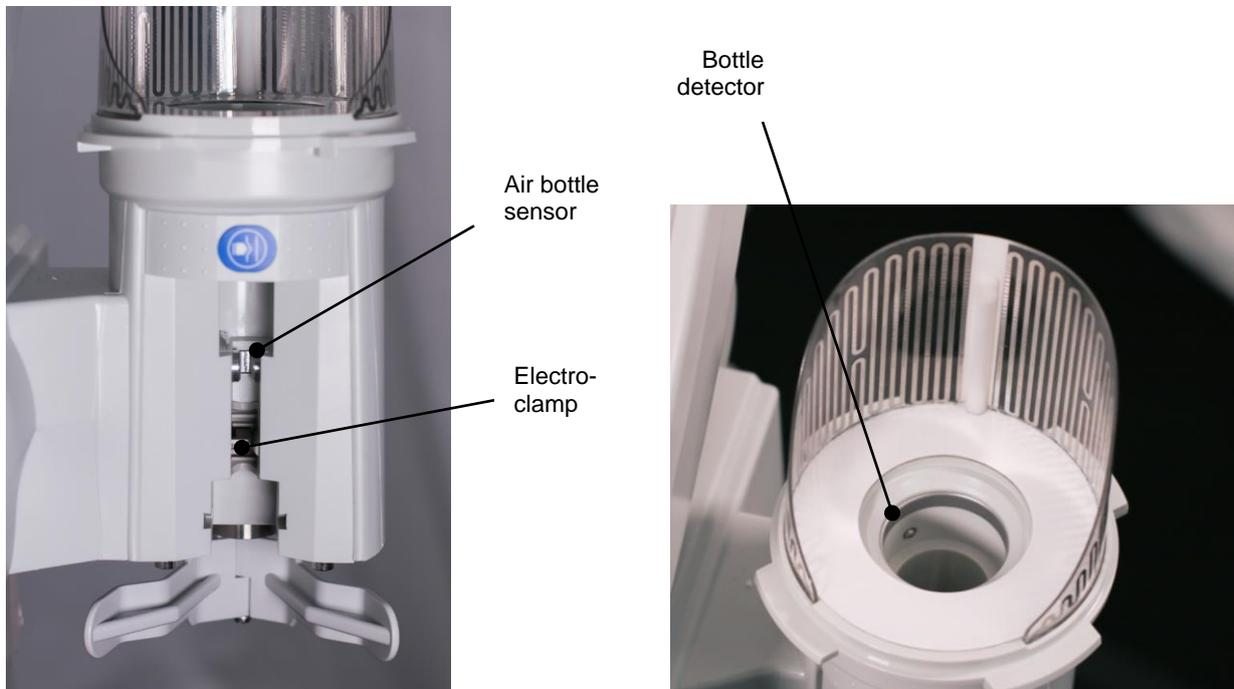

Figure 94 : Bottle holder points to be cleaned
2. Wipe off any visible saline or contrast media thoroughly with a damp cloth using warm water, paying particular attention to the areas shown in *Figure 94*.